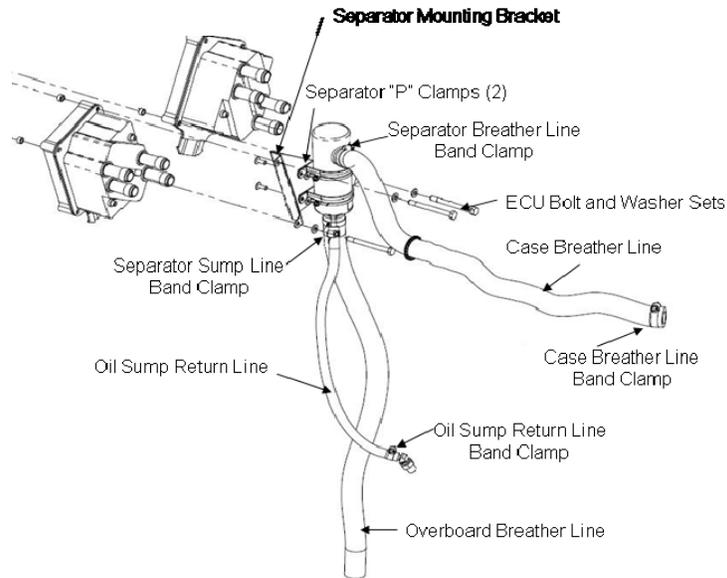

Figure 71-19 Air/Oil Separator Engine Connections
20. If so equipped, Connect the crankcase breather line from the air/oil separator at the location shown in Figure 71-19. The case breather line will be removed with the engine.